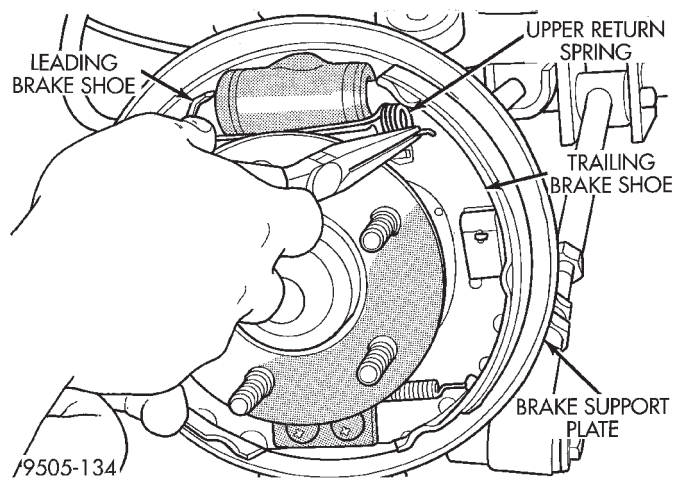

Fig. 109 Upper Brake Shoe Return Spring
(7) Remove the upper return spring from the leading and trailing brake shoe assembly (Fig. 109).
(8) Install the upper return spring (blue right side, green left side) on the leading brake shoe first, then on the trailing brake shoe (Fig. 109).